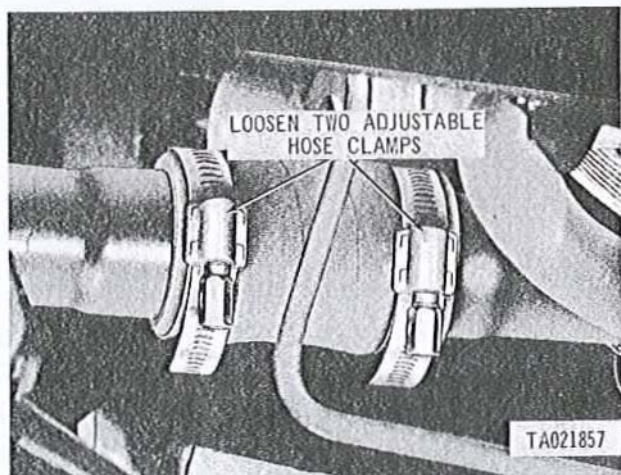

Figure 2-23. Loosening or tightening oil filler upper and lower tube hose connection, model AVDS-1790-2C and AVDS-1790-2D engines.
(1) Loosen two hose clamps (fig. 2-23) on oil filler tube.
(6) Install upper oil filler tube (3) through lower left rear shroud plate and insert lower end of tube in hose (fig. 2-23). Secure upper oil filler tube bracket to turbosupercharger outer shroud plate with one machine bolt and self-locking nut (2, fig. 2-24) and to turbosupercharger base and tie rod with two machine bolts and lockwashers (1). Tighten hose clamps (fig. 2-23).